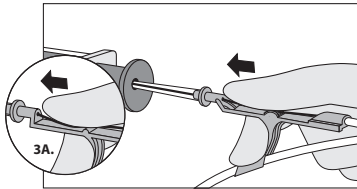

Figure 3
- If using Arrow GlideWheel Advancer, advance guidewire through the Arrow Raulerson wheel or through the introducer needle by pushing advancer wheel and guidewire forward (refer to Figure 3). Continue until guidewire reaches desired depth.